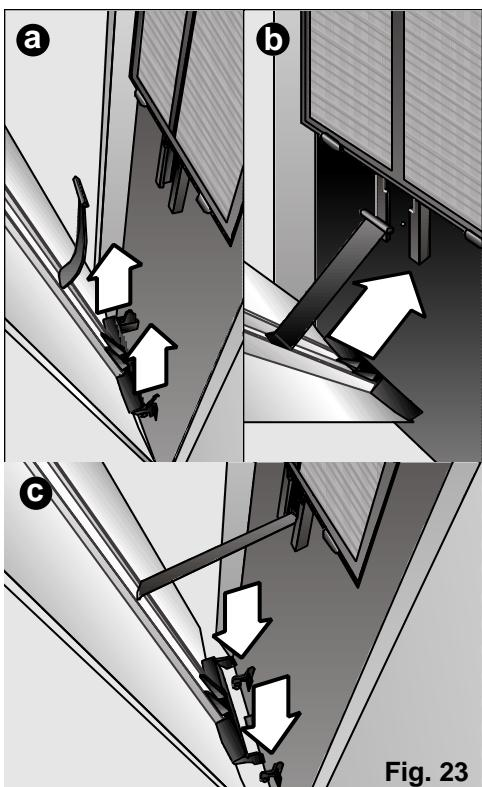

Fig. 23
- 1° Lift the flap until it comes out of its lower supports, (**Fig. 23: a**).
- 2° Position the plastic leg in the front groove on the appliance (in T position) and slide it down to the safety stop, (**Fig. 23: b**).
- 3° fit the lower studs in the front stops on the appliance making sure that the plastic leg fitted in the previous step does not come out of position, (**Fig. 23: c**).